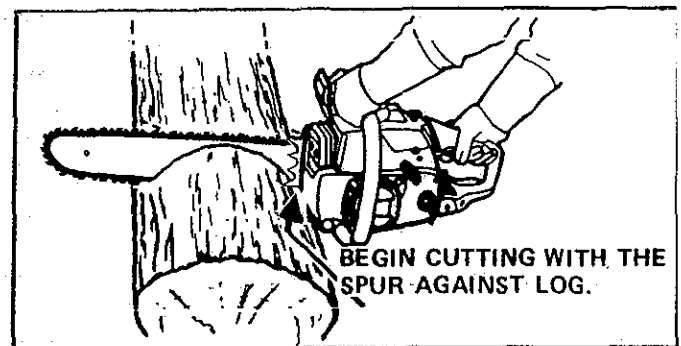

Figure 20
- Begin cutting with the spur against the log.** Figure 20.